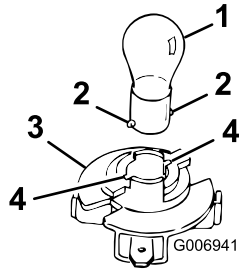

Figure 45
3. Rotate the bulb holder 1/4 turn clockwise and remove it from the reflector (Figure 45).
4. Insert and rotate the bulb counterclockwise until it stops (approximately 1/4 turn), and remove the bulb from the bulb holder (Figure 45).
2. Insert the base into the holder (Figure 45).